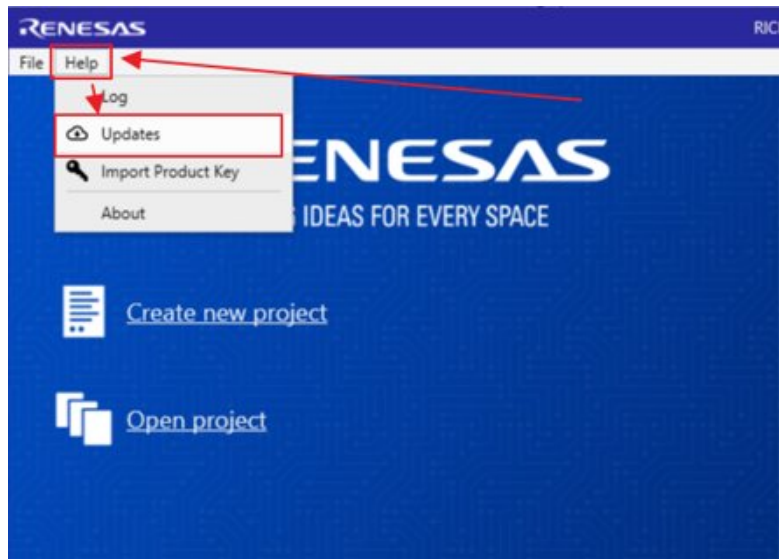

Figure 2. Help > Updates Window
- Figure 2. Help > Updates Window 5